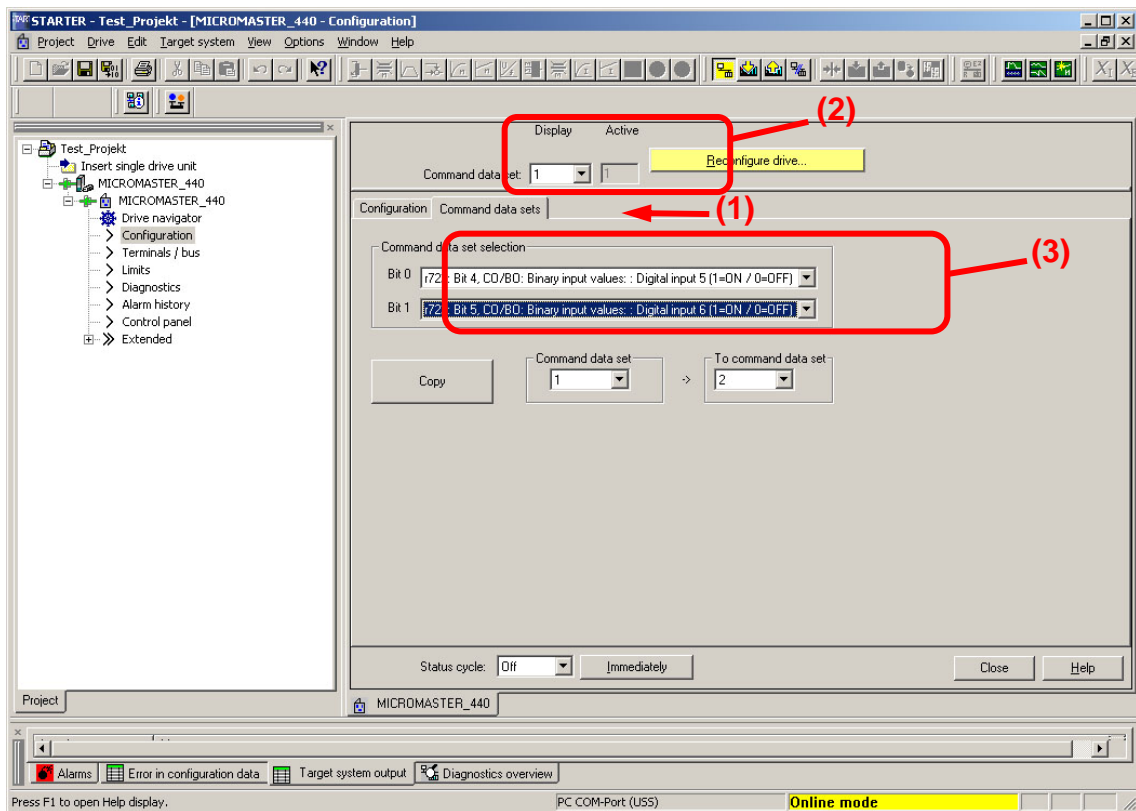

Figure 3-4 Selecting the command data set using the STARTER start-up program
- Open the "**Configuration**" screen by double clicking on the button with the same name in the project tree (1)
- Under the "**Configuration**" tab, activate the checkbox "**Display all command data sets**" (2)
- The "**Command data sets**" tab is then displayed (refer to Fig. 3-4)